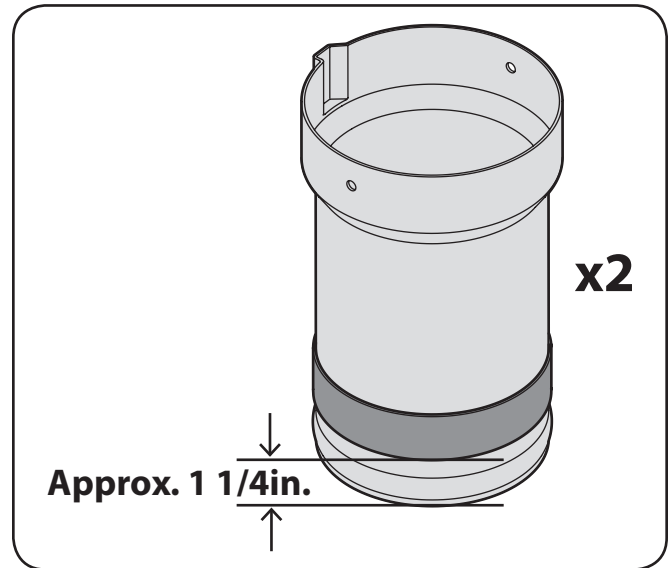

Figure 5-15
3. Apply a wide adhesive rubber strip, included in hardware pack 689-00342, onto the chute extension tube, approximately 1.25 inches from the narrow end of the extension tube, which should be approximately a quarter inch above the bead on the narrow end of the extension tube, as shown in Figure 5-15.